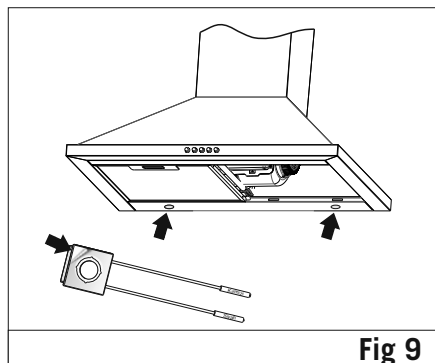

Fig 9
- LED bulb does not operate is possible to remove as shown in **Figure 9**